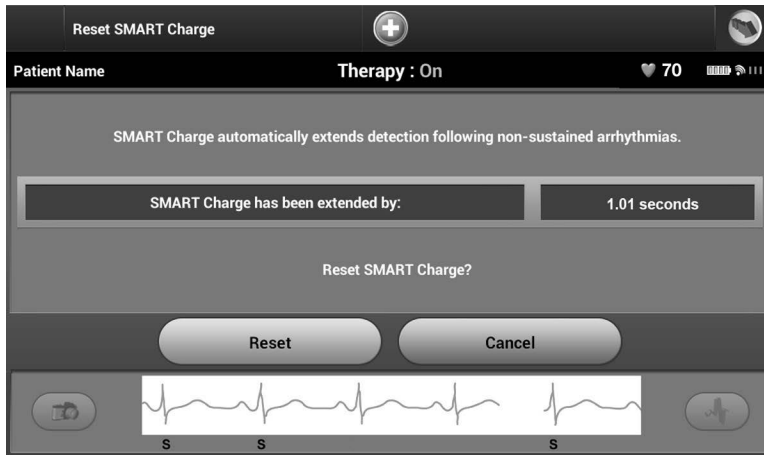

Figure 52: *Reset Smart Charge screen*
1. From the Utilities screen (accessible from the Main Menu screen), select the Smart Charge button. The Reset Smart Charge screen appears (Figure 52).